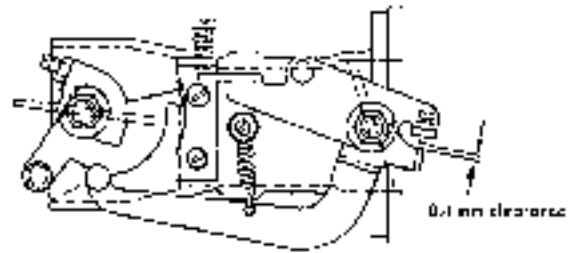

Fig. 01-3/22
3. Adjust the idle mixture adjustment screw (6) of Stage 1 on both carburetors by turning it in and out evenly until
4. Readjust the idle speed to the specified values by means of the idle adjustment screws (9).
7. Set the adjustment screw of throttle valve lever of rear carburetor in such a manner that there is a clearance of 0.4 mm between the screw and the relay lever. Then tighten the locking nut of the adjustment screw. During the adjustment the control linkage should be in idle position and the start mechanism should be completely disengaged, that is, the choke valves should be horizontal. The relay lever should be pressed to the choke valve lever and cam by means of the return spring. If required, the return spring should be replaced (Fig. 01-3/22).